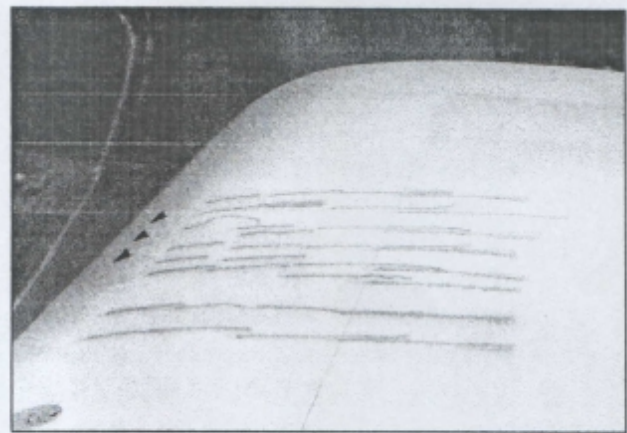

FIG. 8
- 6.3.1 Fly the aircraft at a safe altitude and slowly enter a stall. Figure 8 is a picture of the tuffs with the aircraft approaching the stall speed. Observe the tuffs during the stall. If the tuffs are behaving the same across the span of the wing, that is the tuffs all scrambled and in disarray that tells you that the vortex generators are too far aft. The next test flight will require that the vortex generators will need to be moved forward. If the tuffs are laying flat against the wing behind the vortex generators but in disarray to the side of the vortex generators, that tells you that the vortex generators are in the optimum position or too far forward. The next test flight the vortex generators should be moved aft. The reason for moving the vortex generators further aft in the next test flight is to determine if the optimum position might be further aft. If the vortex generators are too far forward they will reduce the stall speed, however, they will also be creating more drag than is necessary thus reducing the speed of the aircraft. So the procedure is to run a series of test flights and zero in on the optimum position for the vortex generators.